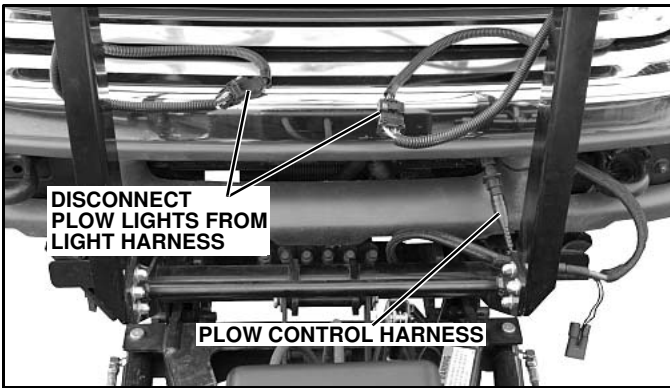
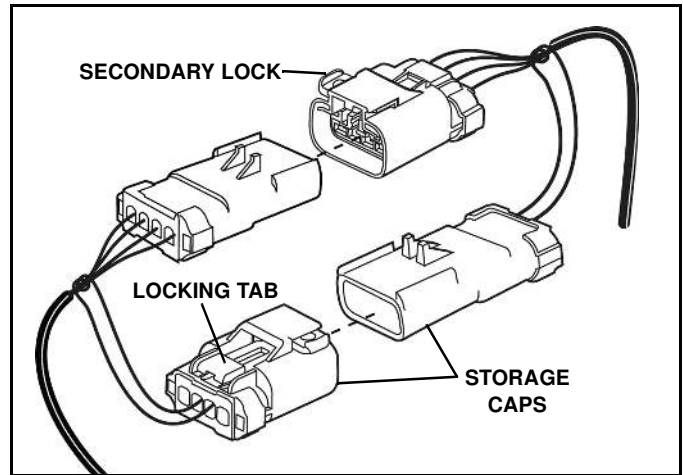

Figure 1-25
Figure 1-27
2. Disconnect the plow lights from the truck light harness. (See Figure 1-25) Disconnect the plow control harness and replace the protective storage caps. (See Figure 1-27)